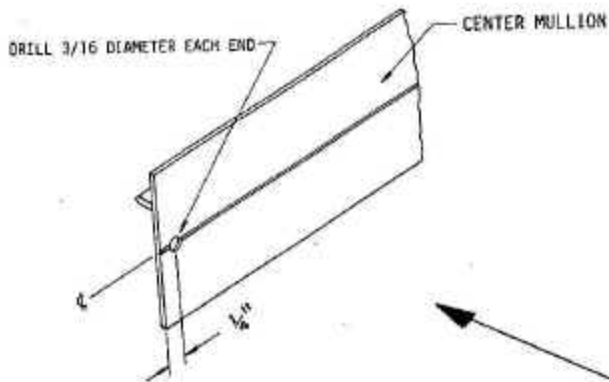

FIG. 1
STEP 1. Drill a 3/16 diameter hole at each end of the center mullion as shown in FIG. 1.